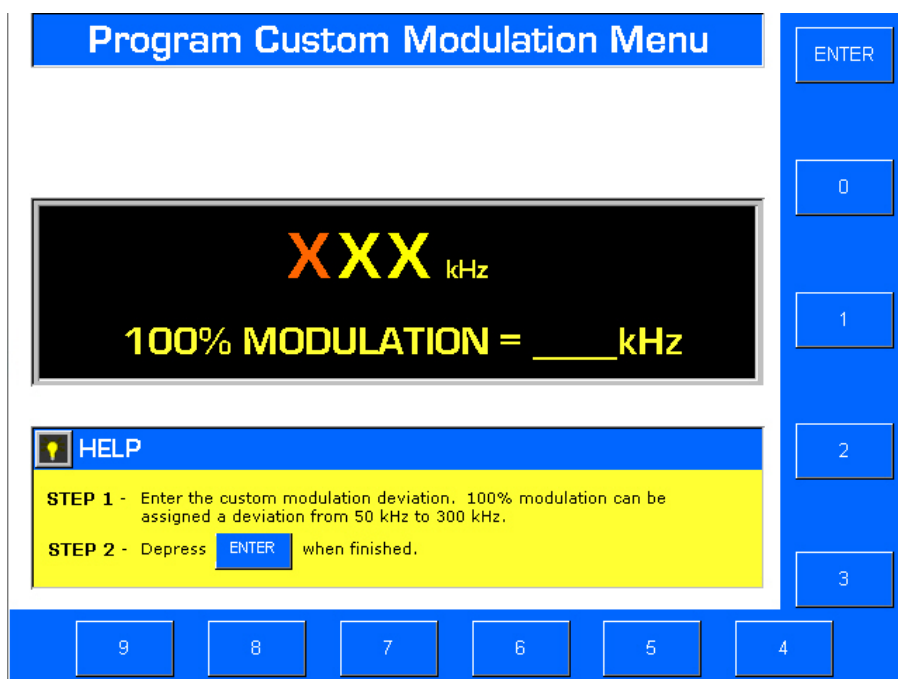

Figure 3-8. PROGRAM CUSTOM MODULATION MENU
1. Depress CUSTOM DEV. The Program Custom Modulation Menu will appear (refer to Figure 3-8)